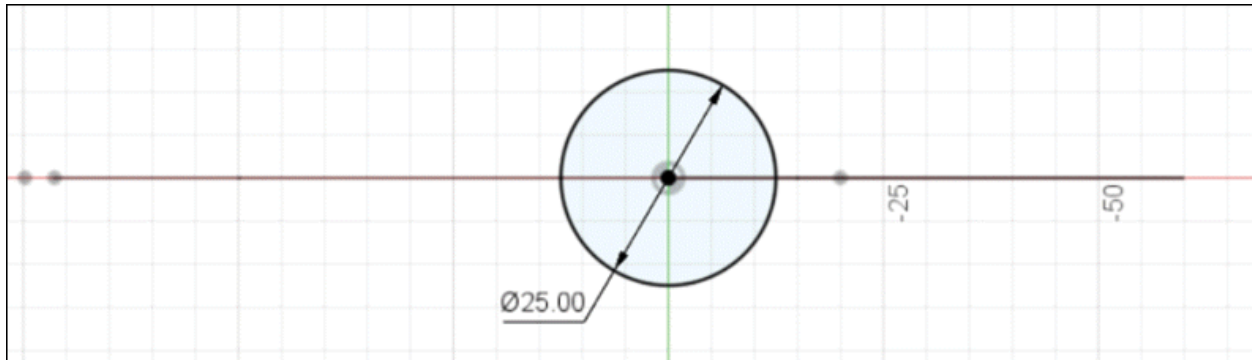

Figure-97. Section sketch circle
- Create a circle of diameter **25** at the origin; refer to Figure-97 and click on the **Finish Sketch** tool from the **Ribbon** to exit sketching environment.